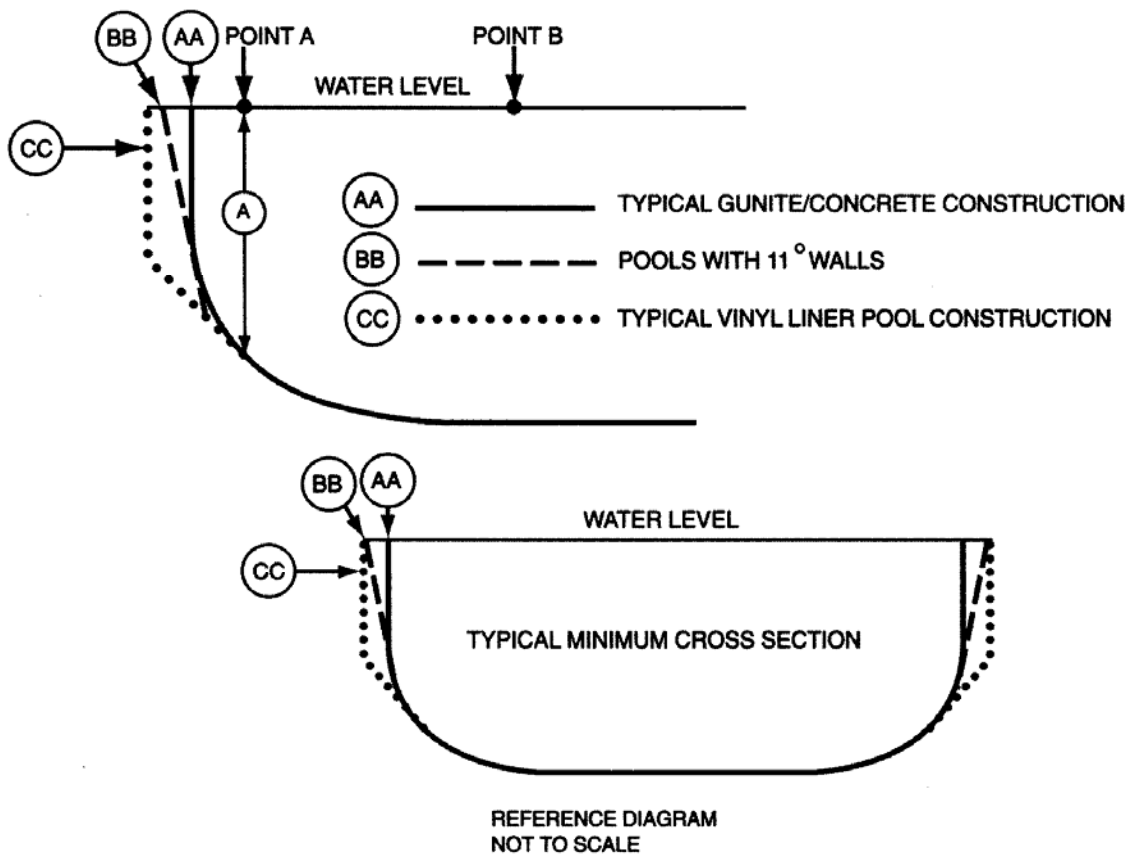

Figure 2- Typical pool design configurations
**5.3.2** As shown in figure 2, at the depths of (a) and (b), the walls are permitted to join the floor.
**5.9.4 Typical pool design configurations.** Vinyl liner, shotcrete, fiberglass and concrete constructions shall conform to, but are not limited to, the typical pool configurations shown in figure 2.